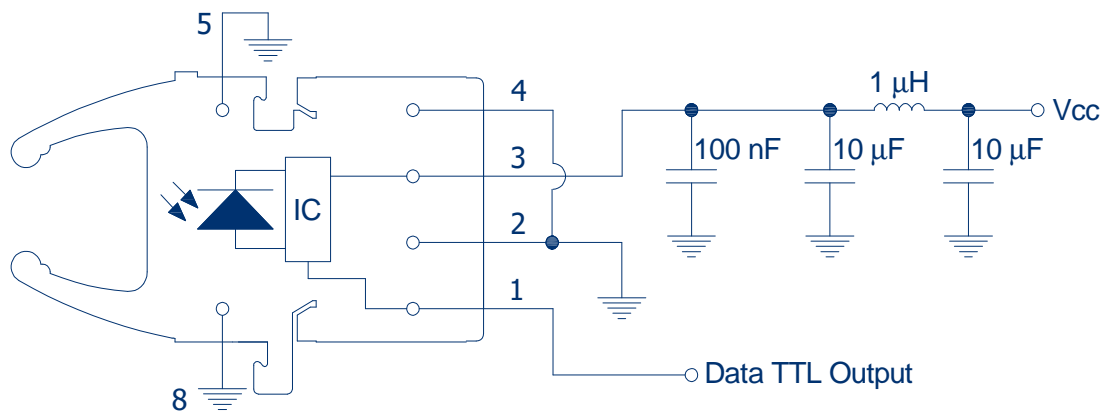

FIGURE 2 RedLink® Receiver Application Circuit
- a) Pin 4 is electrically isolated internally. Pin 4 may be externally connected to pin 1 for board layout compatibility with existing designs. Otherwise it is recommended pin 4 be grounded as in Figure 2